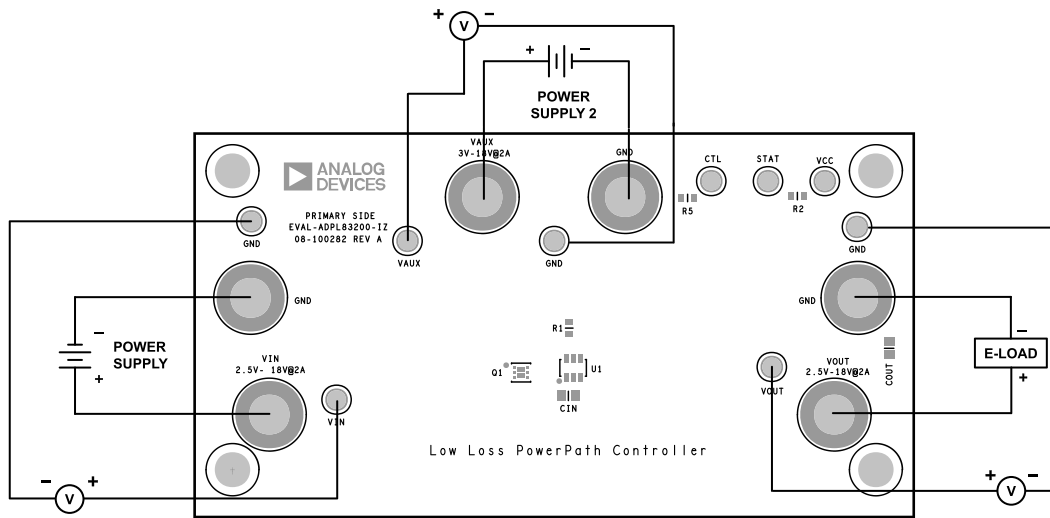

Figure 1. Test Setup of EVAL-ADPL83200-IZ
Evaluation board EVAL-ADPL83200-IZ is easy to set up to evaluate the performance of ADPL83200. See Figure 1 for the proper measurement equipment setup of both circuits, use the following procedures.
1. With all power off, connect the auxiliary (V_{AUX}) and primary (V_{IN}) power supplies, each capable of 2A, to the system load and meters as shown in Figure 1.